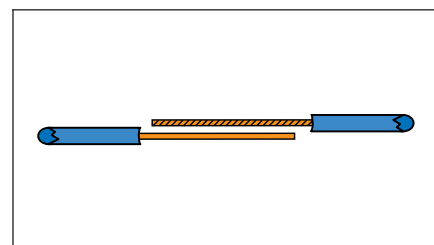

Figure 1 Strip and Tin Wires
3. Strip and pre-tin stranded wires in accordance with guidelines identified in paragraph 7 in 8.1. (See Figure 1.)